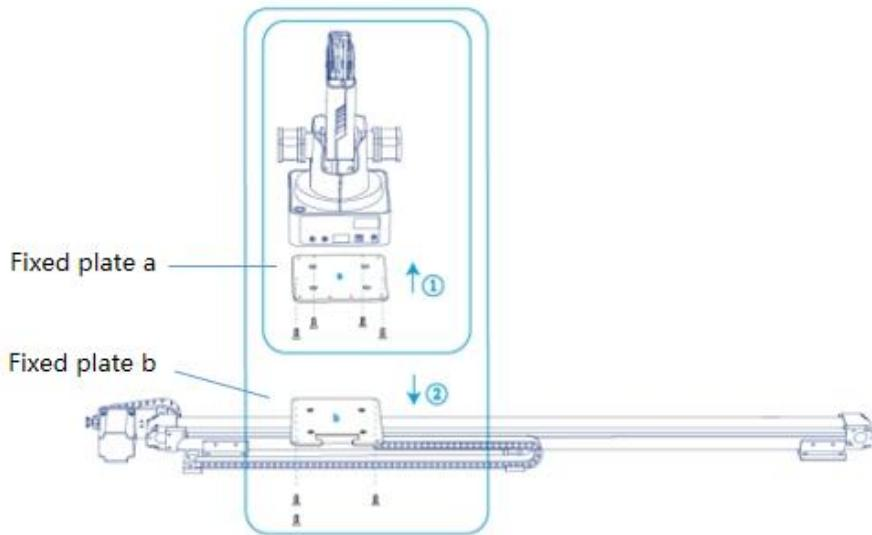

Figure 5.32 Fix Magician
**Step 2** Fix the plate a (with Dobot Magician) on the plate b with three M3\*8 hexagon socket head cap screws. Please make the back of the base of Dobot Magician towards the rabbit on the plate b, as shown in Figure 5.32.